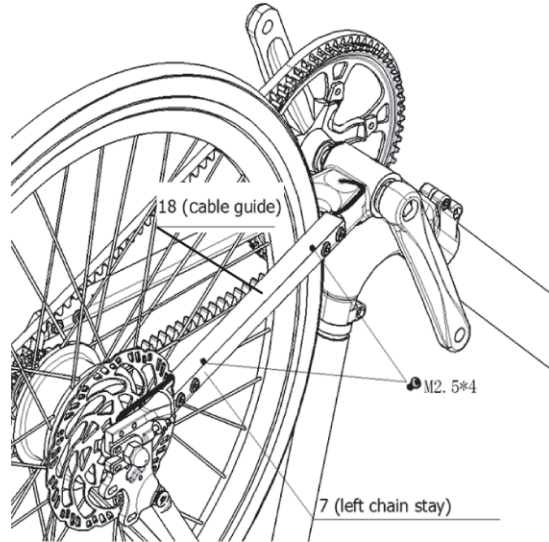

Figure 37-1.
c. Use Part 18 to cover the motor cable, then use a screwdriver to lock the two M2.5\*4 mm bolts on Part 7, as shown in Figure 37-1.